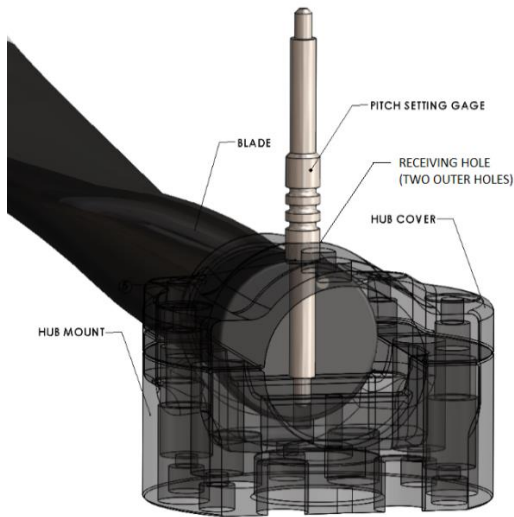

FIGURE 5. PITCH SETTING GAGE DETAIL
9. Insert the pitch setting gage through that blade's receiving hole in the hub cover half and into the gage hole in the hub mount half. See **Figure 5**. Unless specified by the aircraft manufacturer, use pitch setting 4 to start. The pitch setting # indicates relative pitch; pitch 5 is higher pitch than pitch setting 4, etc...
3. Insert the desired pitch setting gage into the receiving hole in the hub cover half and gage hole in the hub mount half. See **Figure 5**.